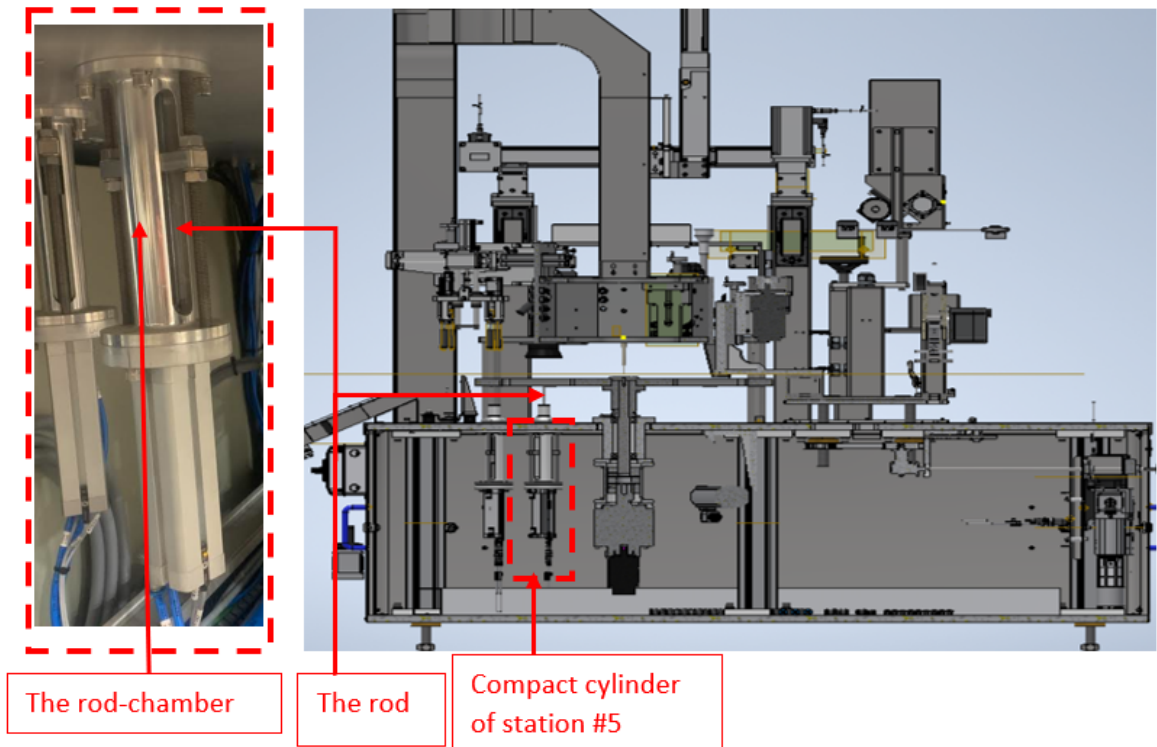

Figure 5-18 The compact cylinder of station #5 position
- b) From the rod-chamber as shown in Figure 5-18, grasp with two fingers the rod, and push it up to the top of the table.